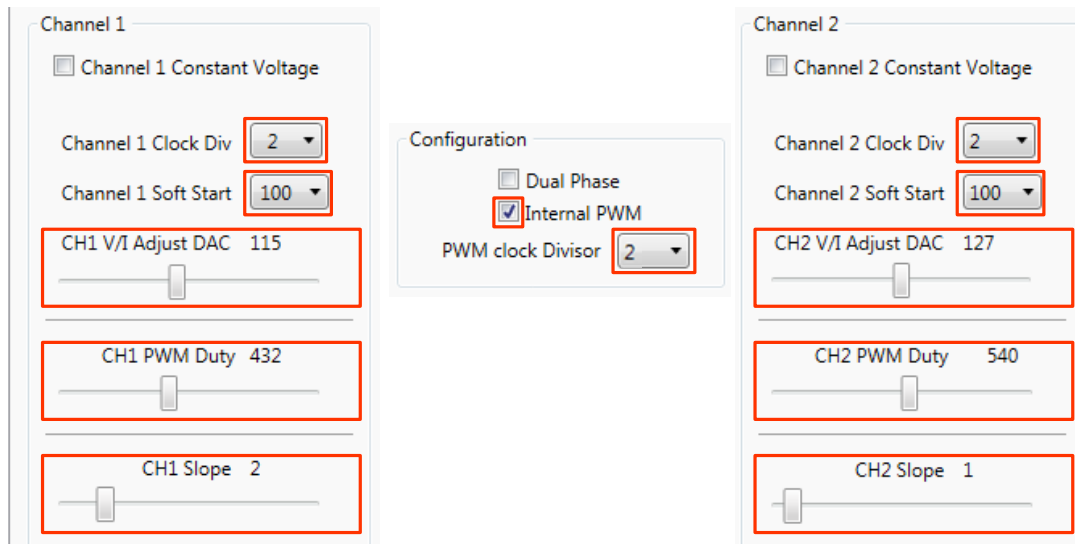

Figure 51. Devices Window Setting
Apply the settings shown in Figure 51.
- $R_{CS}$  is the current sense resistor (R3 for channel-1 and R20 for channel-2) (1)
6. By default CHx-Slope is set to code "5", which corresponds to 250 mV of peak slope. For the TPS92682EVM-70, it is recommended to set the slopes for both channels to a code "1" or "2" as shown in Figure 51